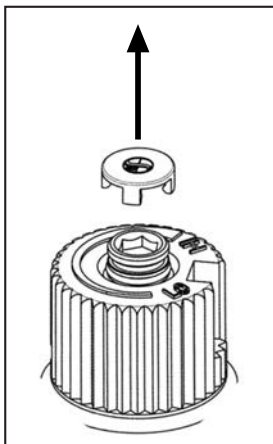

Figure 39: Removing valve cap.
- a) Remove the black protection cap from the HI/LO knob by hand shown in Figure 39.
- g) Re-attach the black protection cap that was removed in step a (Figure 39).